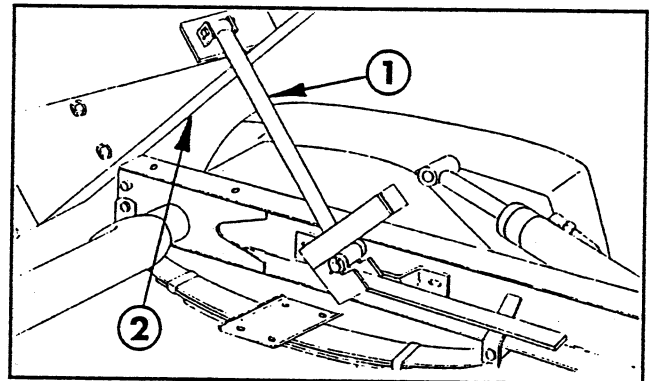

FIG. 10
37. Assemble (2) 3/8" long spacers, clevis pin, and cotter pin to one end of the strut support rod (FIG. 10).
38. Insert the end of the rod assembly with installed spacers through the support bracket located on the left side of the vehicle. Attach the other end to the inside of the skid at the rear bulkhead using a clevis pin and cotter pin. See FIG. 10.